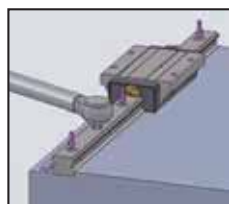

Fig 1.11.10 Full Tightening of Mounting Bolts
(D) Using a torque wrench, tightening the mounting bolts to the specified torque (Fig 1.11.10).